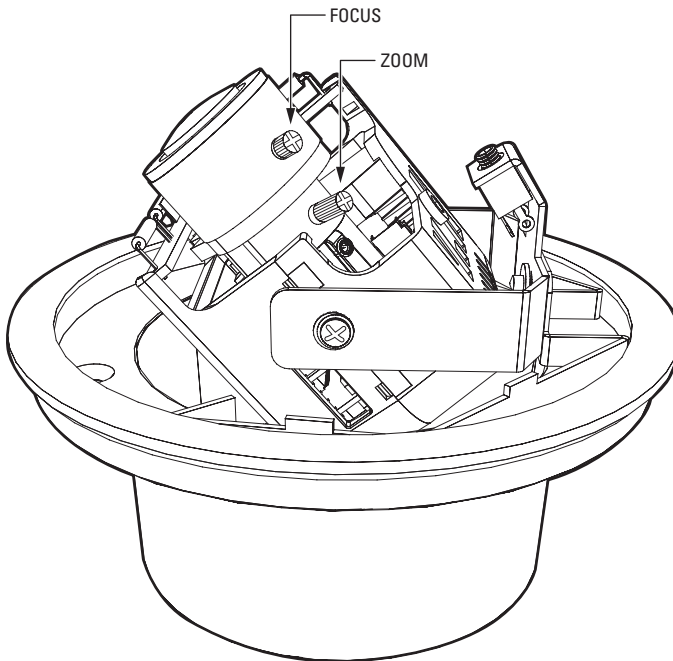

Figure 8. Location of Zoom and Focus Locking Screws
1. Loosen the zoom locking screw (refer to Figure 8).